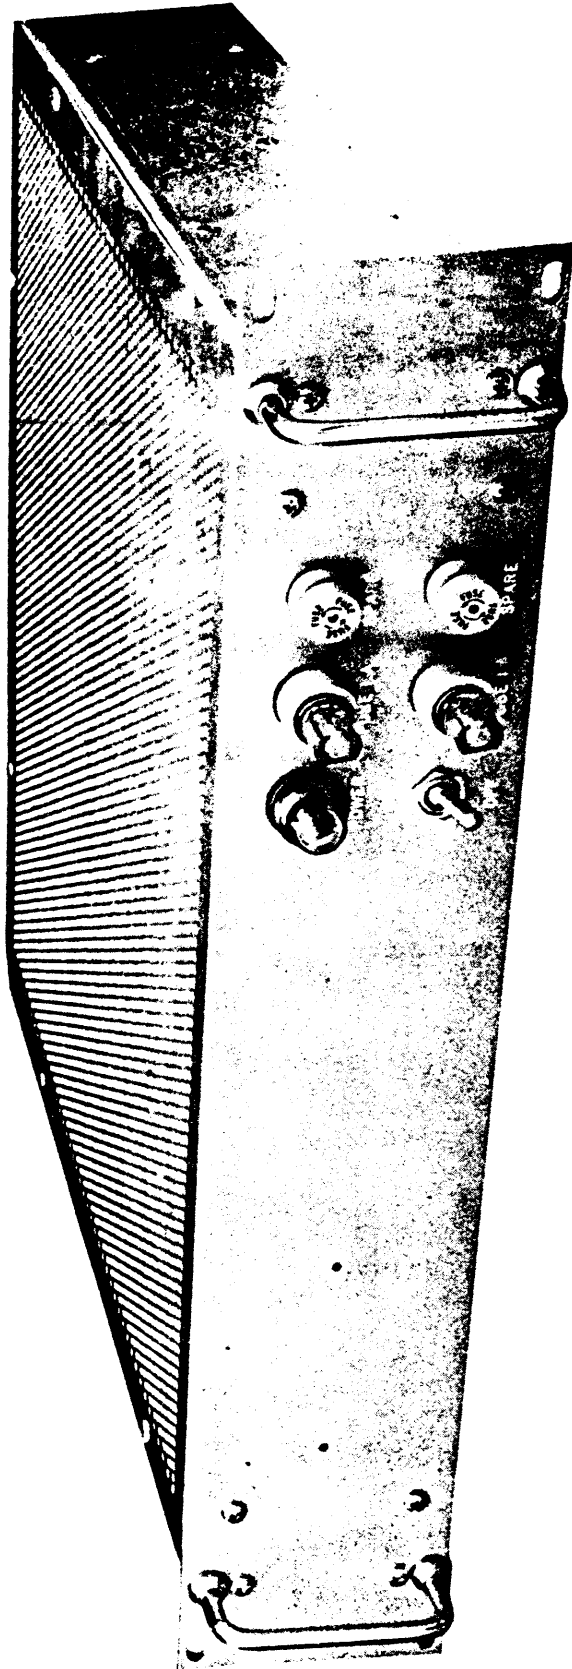

FIGURE 1-1 THIRTY-TWO OUTPUT ANTENNA MULTICOUPLER,
(1) The Thirty-Two Output Antenna Multicoupler, Model AMC-32 (photograph Figure 1-1) is a broadband antenna-to-receiver coupling device which makes possible the use of a common antenna system by thirty-two HF communications receivers. Its circuitry contains a broadband transistorized preamplifier, thirty-two individual buffer amplifiers and a regulated power supply. The unit has been designed to produce a sizable reduction in amplitude of signals re-radiated from one receiver to another or from receivers to the common antenna system.
(2) The low-noise preamplifier and output stages have an overall insertion voltage gain of +2dB, with second and third order intermodulation products kept to a minimum. They maintain a large signal handling capability as well as a substantially constant input and output impedance of 75 ohms over the 2 to 32 MHz range. High isolation is maintained between outputs and between output to input to suppress re-radiation from one receiver to another or to the common antenna system.